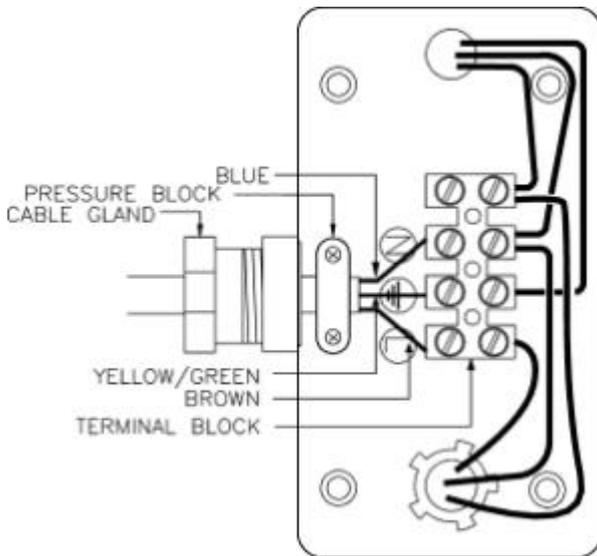

FIGURE 10
- (5) Strip approximately 6-8mm insulating part of the wires from the power cord. Before connection, ensure that the wiring box gasket is firmly seated in its original place.
- (6) Connect the BROWN wire (Live wire) to the terminal block "L" mark. Connect the BLUE wire (Neutral wire) to the terminal block "N" mark. Connect the YELLOW/GREEN (Ground wire) to the terminal block "⊕" mark (If used, when the power cord has it)(FIGURE 10).